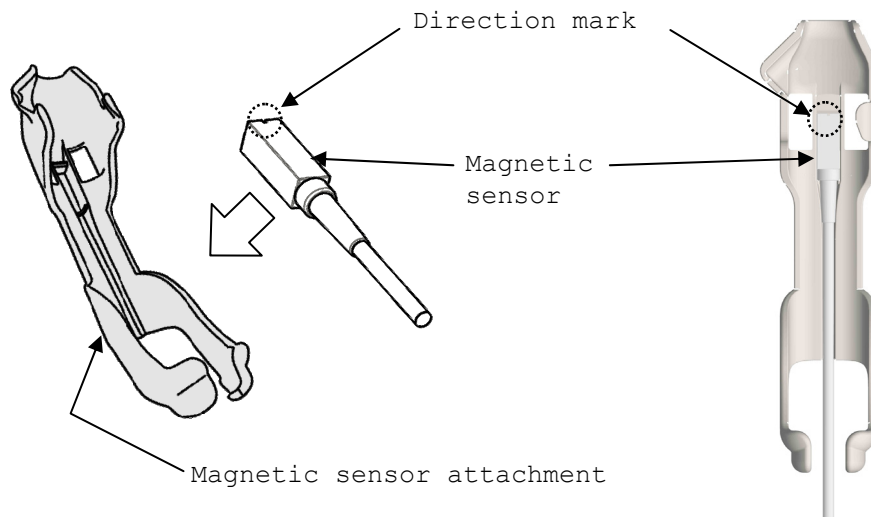

Fig.6 How to attach the Magnetic sensor
- 2) Insert the Magnetic sensor into the Magnetic sensor attachment in the correct direction as shown in Fig.6.